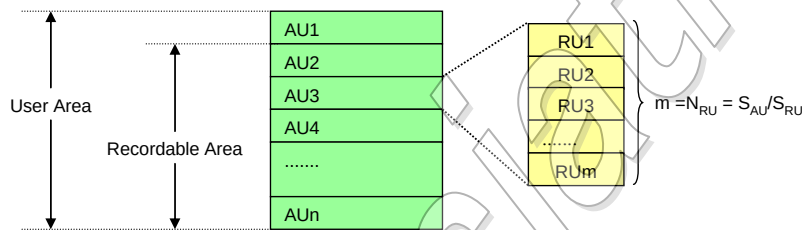

Figure 4-8: Definition of Allocation Unit (AU)
4.13.1 Allocation Unit (AU)
User Area is divided into units called “**Allocation Unit (AU)**” (Refer to Figure 4-8). Each card has its own fixed **AU Size (S_{AU})** and the maximum AU Size is defined depending on the card's capacity. The host should manage data areas with the unit of AU. Several AUs from AU1 should not be used for real time recording because those may include system information. AV application should start recording from the first complete AU, to which only user data can be recorded. Note that this specification does not apply to Protected Area.
4.13.2 Recording Unit (RU)
Each AU is divided into units called “**Recording Unit (RU)**” (Refer to Figure 4-8). The **RU Size (S_{RU})** should be one or multiple of cluster size specified in the SD File System Specification. **The number of RUs in an AU (N_{RU})** is calculated from S_{AU}/S_{RU} .